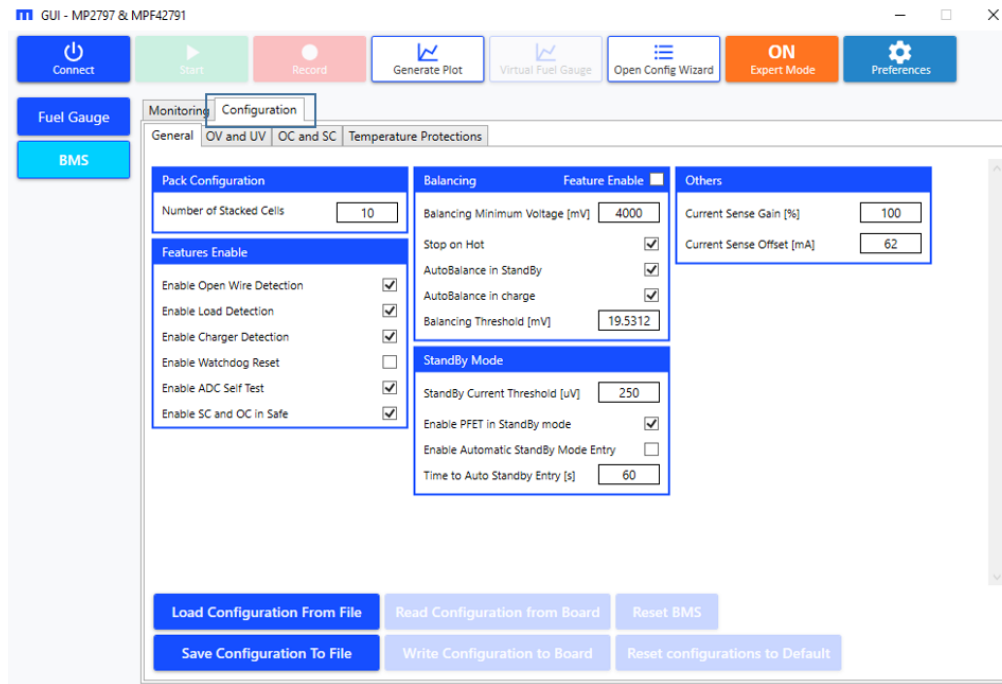

Figure 43: BMS Configurations
2. Select the Configuration tab (see Figure 43).
2. Select the Configuration tab (see Figure 43 on page 33).